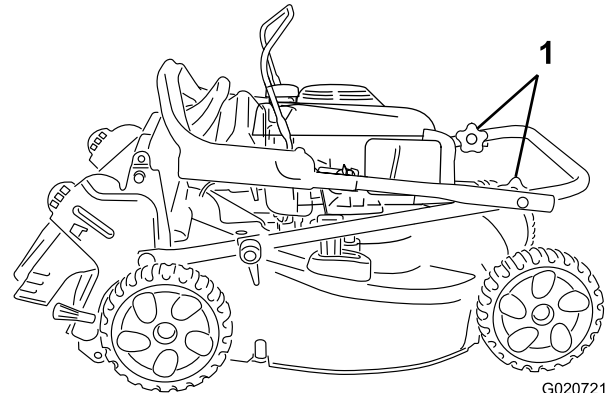

Figure 21
3. Rotate the upper portion of the handle back toward the engine; refer to Figure 21.